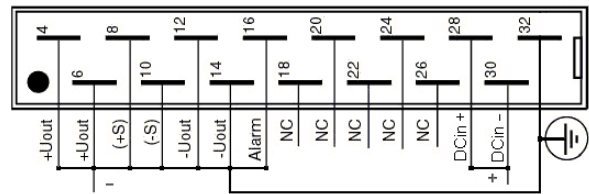
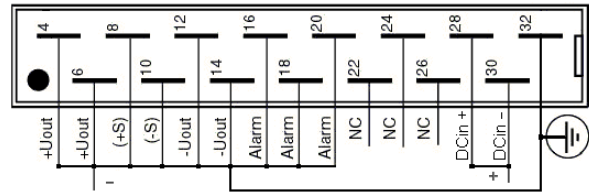

Figure 13. Input to output and input to case isolation voltage test.
Figure 14. Input to output and input to case with relay isolation voltage test.
2. Check *Figure 13* or *Figure 14* to include the alarm relay option. The relay outputs are insulated from output/input/case.
6. Raise the voltage of the isolation tester from 0 to 2500Va.c. The voltage should not be applied for more than one (1) minute or the Y-capacitors might be damaged.